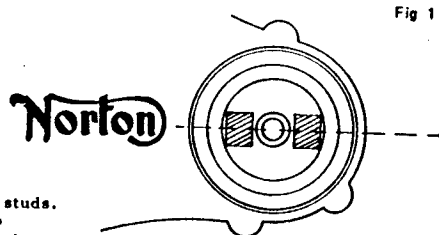

Fig 1
- 6) Fit magnetic rotor unit using the short bolt supplied, with the magnets in line with the name Norton on the timing case. See fig 1.